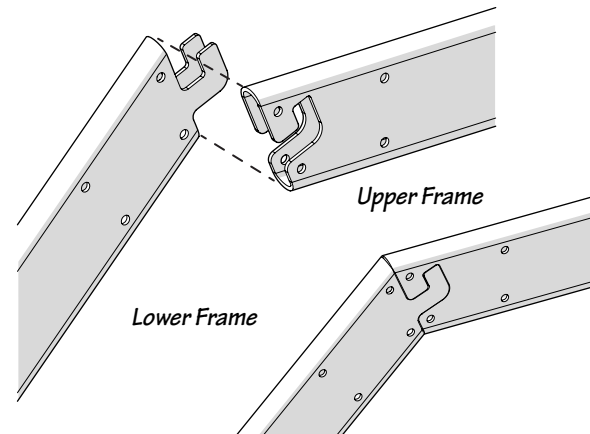

Fig. 3-2
- Grasp the lower frame with one hand and the upper frame rail with the other. Align the male "puzzle" end of the lower frame with the female "puzzle" end of the upper frame. Slide the frames together from the side as shown in Fig. 3-2.
- (2) splice plates
- (8) 5/16" x 2.0" carriage bolts
- (8) 5/16" acorn nuts & washers
- Lift the partially assembled frame and insert the remaining four carriage bolts through the ends of the pivot plate. Pass the bolts through to the opposite side, then attach washers and nylock nuts, as shown in Fig. 3-2.